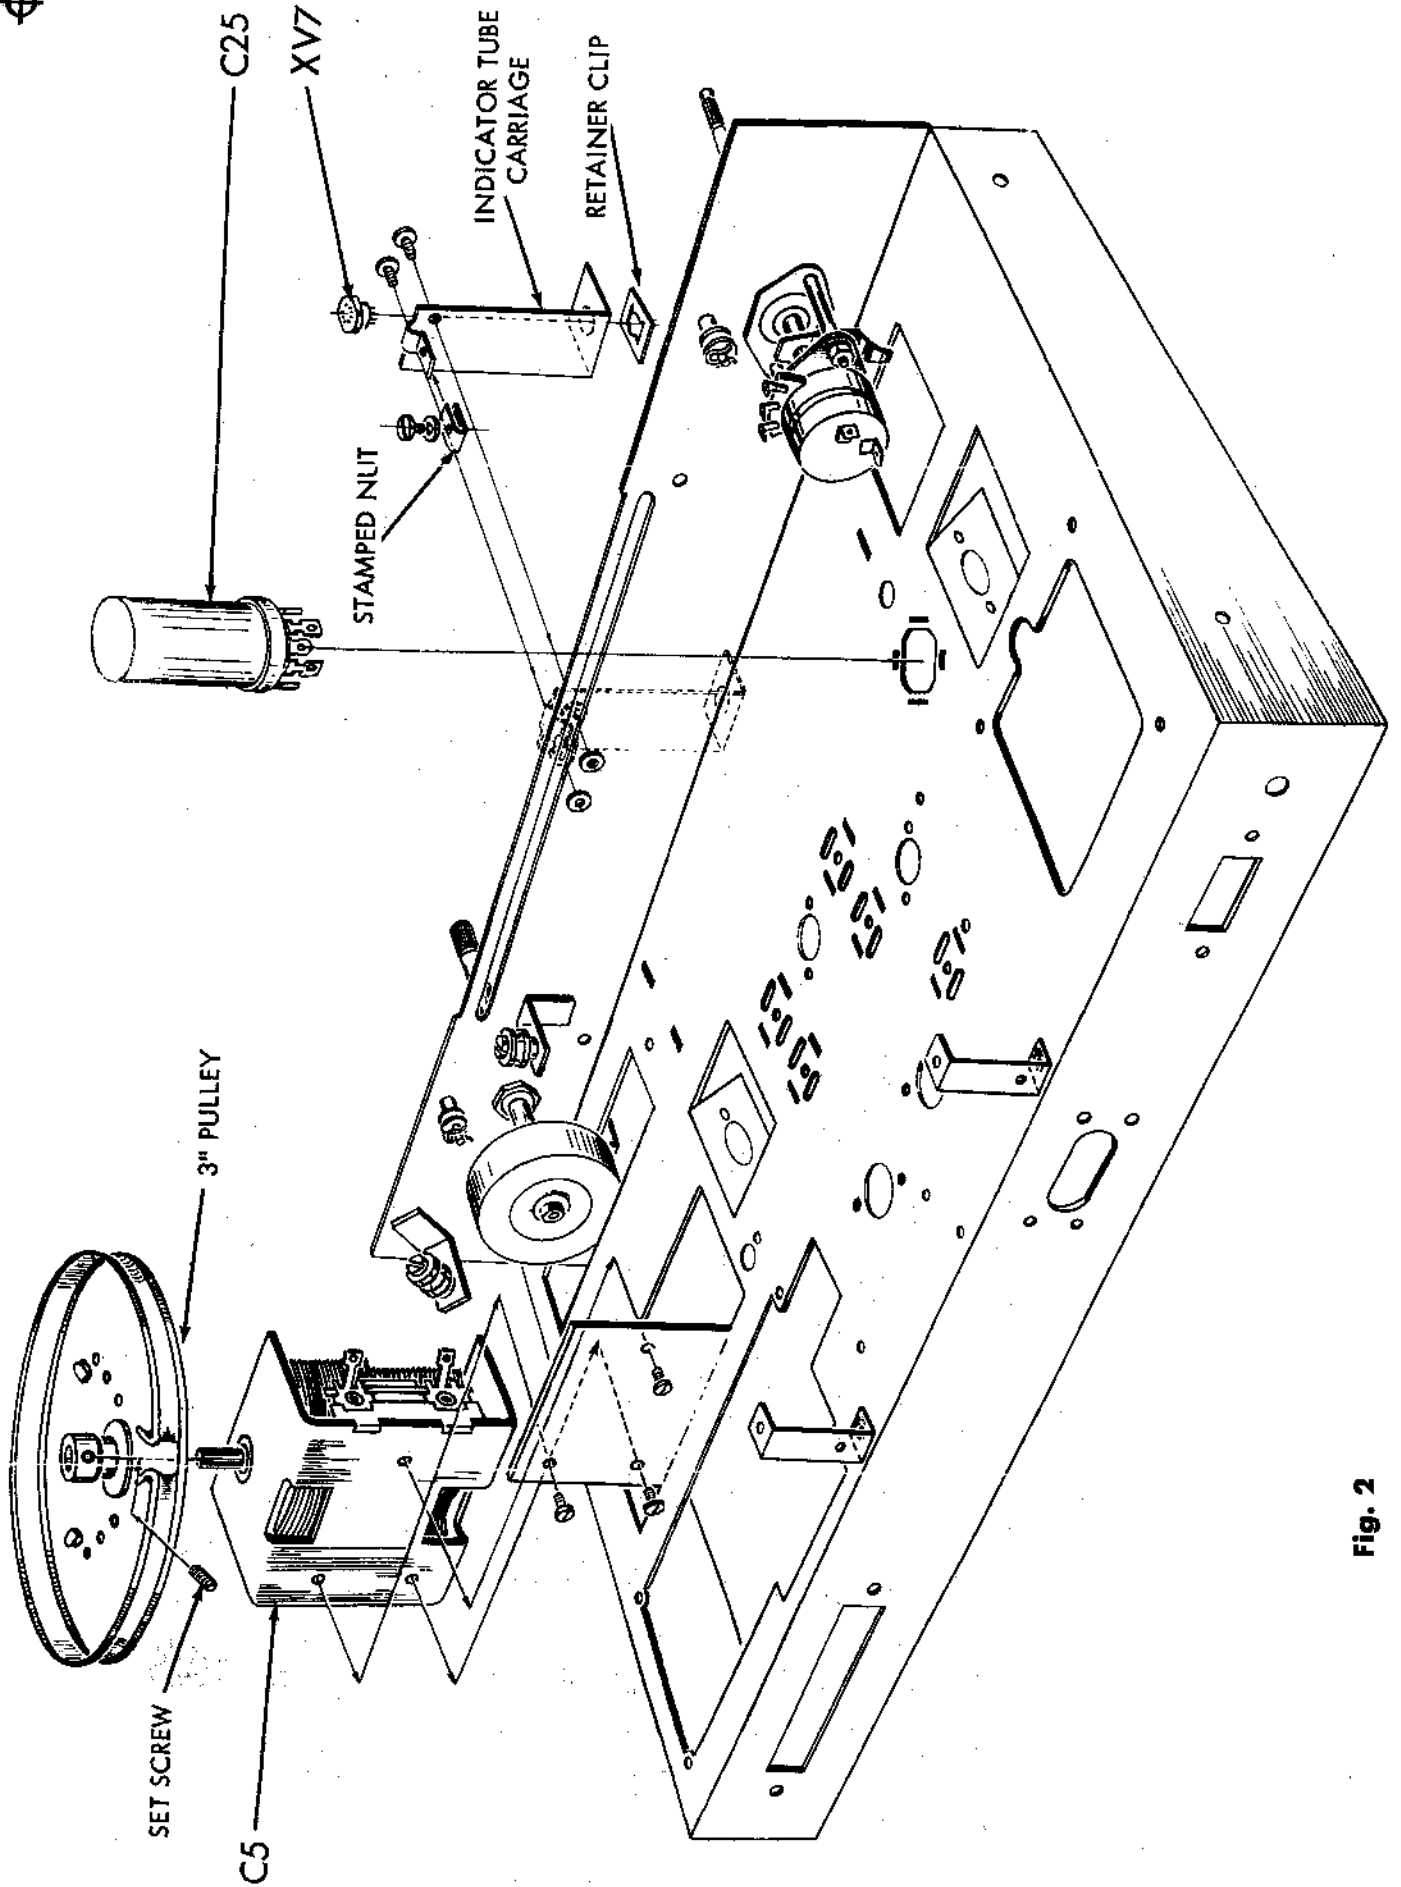
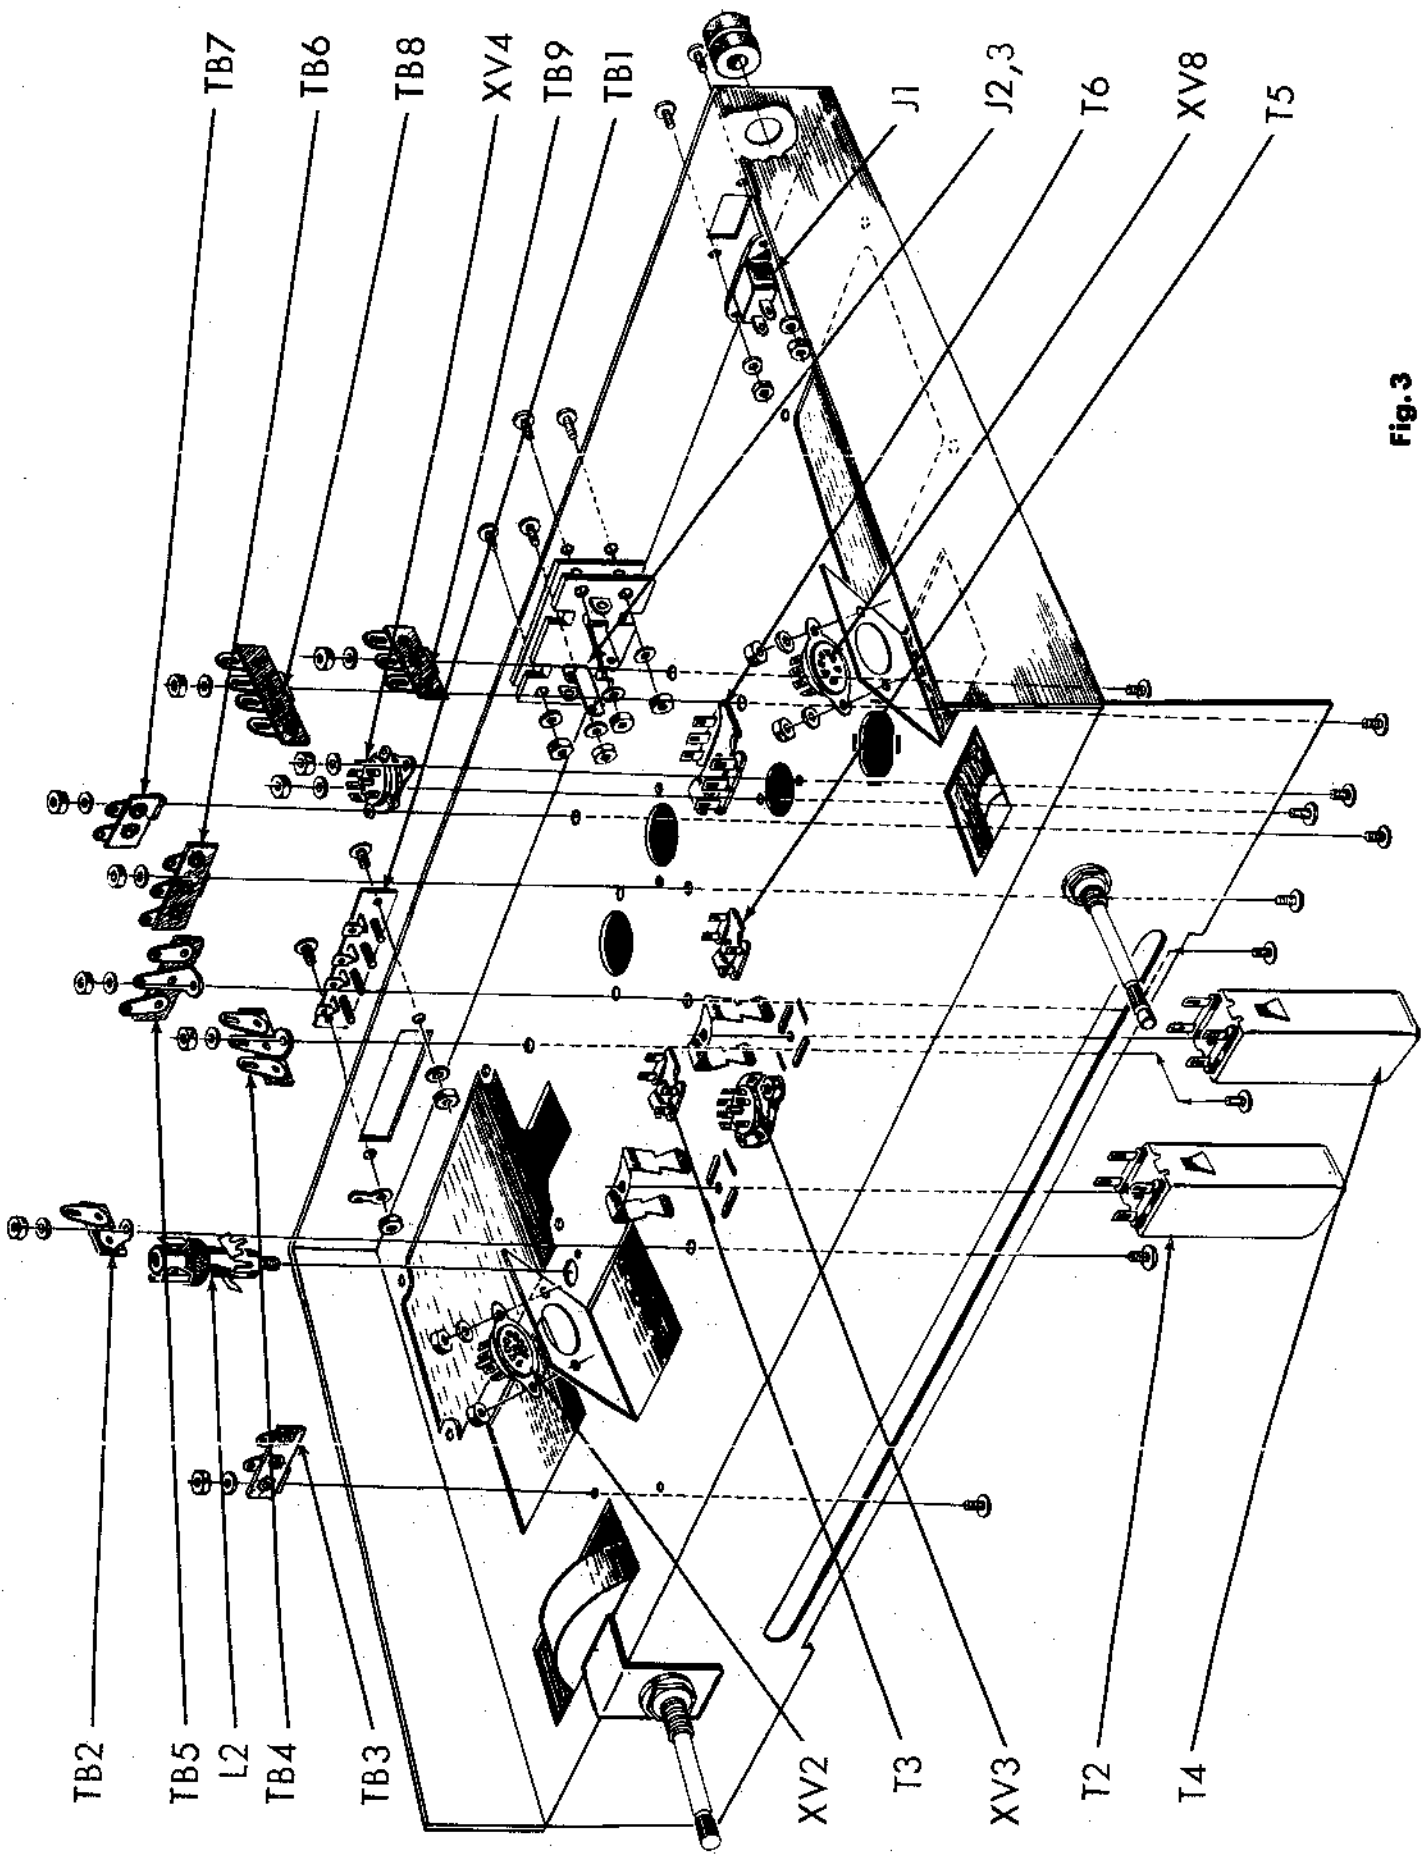
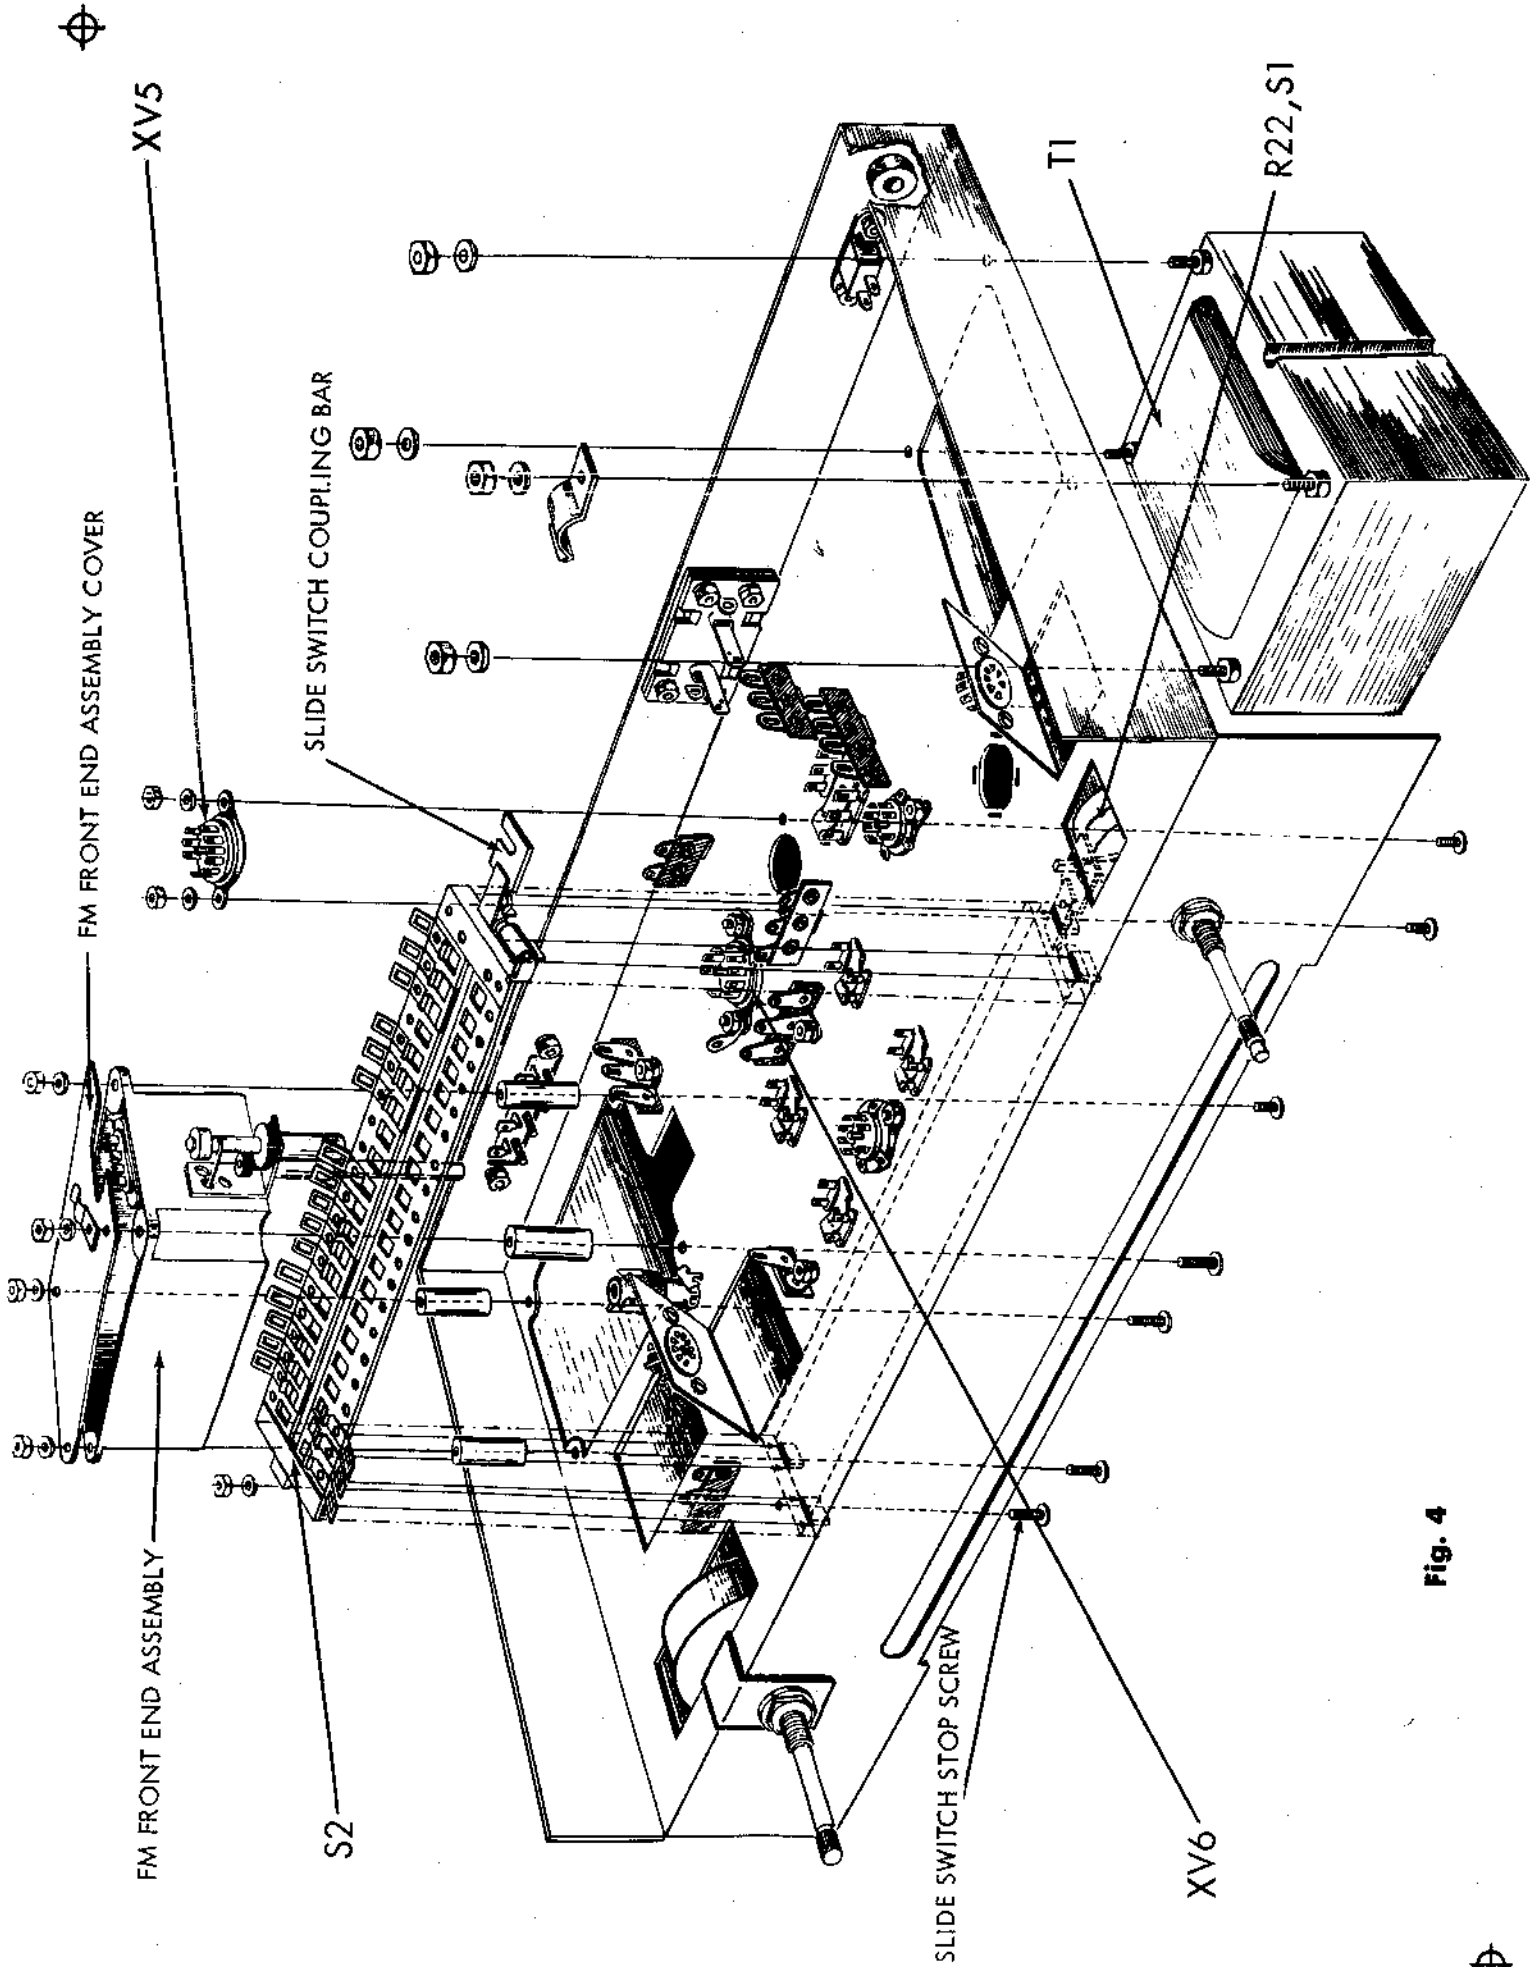
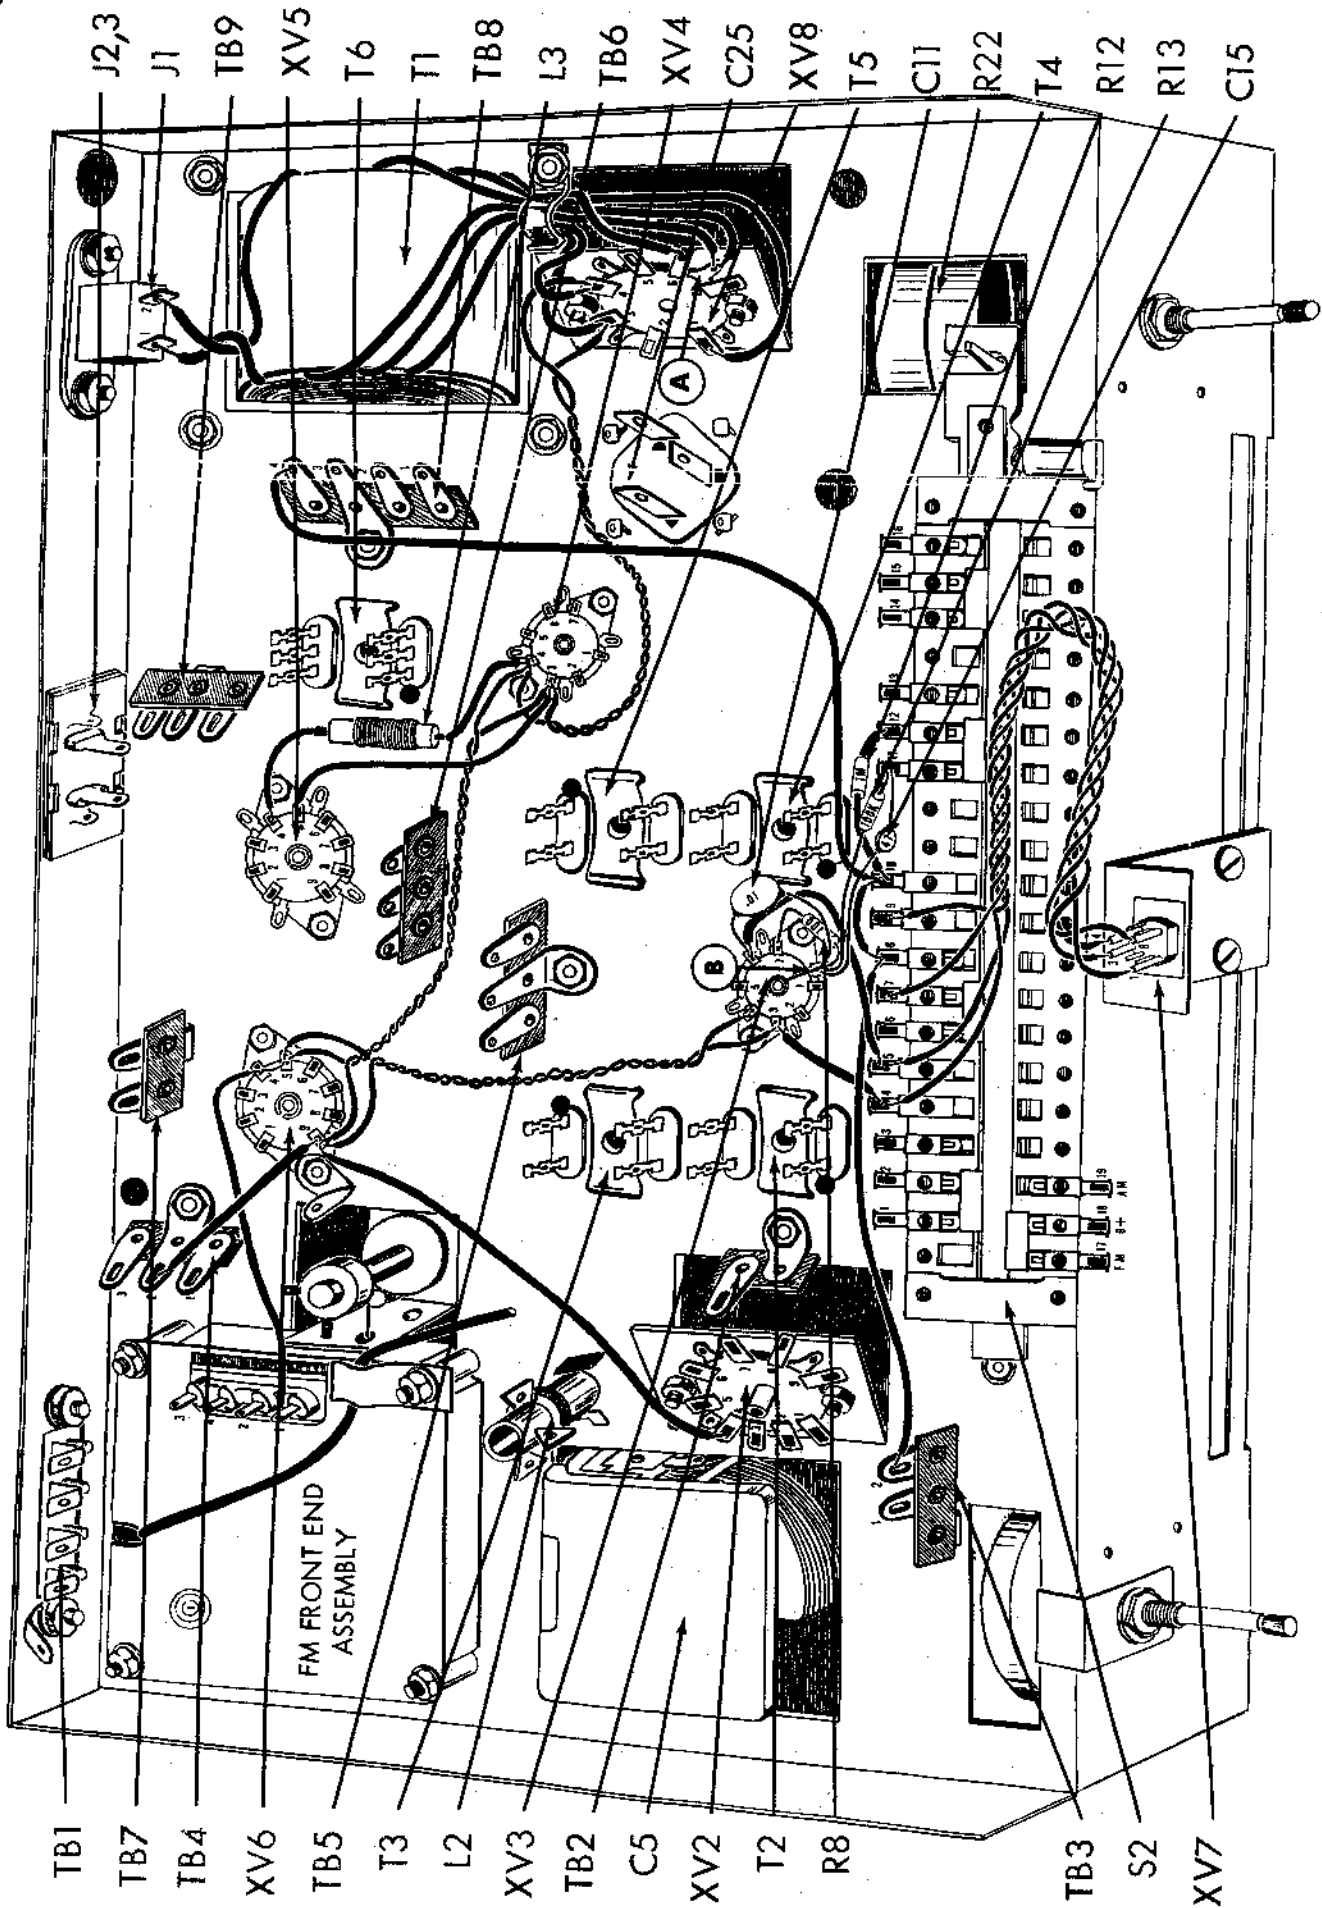

Fig. 2
Fig. 3
Fig. 4
Fig. 5
- (4) 1. Fig. 2. Snap the small stamped nut in position on the indicator tube carriage. Screw a #4-40 screw and a #4 flat washer into the nut. Do not tighten screw.
- (4) 2. Fig. 2. Pass the leads pre-wired to socket XV7 through the "D" shaped hole in the indicator tube bracket. Note that the flat on the socket automatically positions the socket. Pass the leads through the retainer clip and firmly press it over the socket to secure the socket to the tube carriage.
- (4) 3. Fig. 2. Mount the indicator tube carriage to the chassis as follows: Lay the carriage in place against the chassis front, as shown. Insert the shoulder of one of the special round brass tapped eyelets into the chassis slot from the rear and line it up behind one of the holes in the carriage. Insert a brass screw through one of the holes in the carriage into the threaded hole in the round brass tapped eyelet and then tighten the screw. Do the same with the second round brass tapped eyelet and brass screw using the second hole in the carriage. The carriage should slide freely along the full length of the slot when you are finished.
- (4) 4. Fig. 2. Mount the 40-20-20 mfd electrolytic can capacitor, C25, as shown. Note the orientation (direction of half moon, square and triangle) in figure 5. Twist all four tabs about 1/4 turn. Do not twist too much or the tabs will shear off. Solder the tab without the hole to the chassis to assure a good ground contact.
- (4) 5. Fig. 2. Turn the shaft on the variable capacitor C5, so that the plates are fully in mesh - closed (maximum capacity). This will prevent damage to the rotor plates. Mount the capacitor to the chassis bracket bent at a right angle with the rest of the chassis. The capacitor is to be mounted with the trimmer screws facing and closest to the edge of the chassis. Secure the capacitor to the bracket using three #6-32 x 1/8 screws.
- (4) 6. Fig. 2. Mount the set screw into the hole in the bushing of the 3" pulley. Rotate this screw three times in the hole so that it will not come loose.
- (4) 7. Fig. 2. Slide the 3" pulley over the capacitor shaft. Rotate the pulley and note if it is parallel to the frame of the capacitor. It is parallel if the pulley does not wobble when rotated. If it is not parallel, bend the pulley slightly. Push the pulley towards the frame. There should be about 1/32" clearance between the pulley bushing and the frame. Turn the pulley clockwise on the shaft until the opening in the side of the pulley is towards the side of the chassis, away from the center. Tighten the set screw when the pulley is in this direction, and the tuning capacitor is fully closed.
- (1) 1. Fig. 3. Mount the convenience outlet J1, in the rear apron of the chassis. Use two #6-32 x 1/4 screws, two #6 lockwashers and two #6-32 hex nuts.
- (2) 2. Fig. 3. In the hole next to the convenience outlet, mount a 3/8" rubber grommet.
- (3) 3. Fig. 3. Mount dual jack J2, 3, as shown. Use four #4-40 x 3/8 screws, four #4 lockwashers and four #4-40 hex nuts. Use a bakelite insulator between the chassis and the jack.
- (4) 4. Fig. 3. On four screw antenna terminal board TB1, bend up all lugs as shown in the drawing. From the outside of the chassis, mount the board using two #6-32 x 1/4 screws and two #6-32 hex nuts. Under one hex nut, mount a #6 ground lug and under the second hex nut mount a #6 lockwasher. Check that the lugs are bent parallel to the rear apron of the chassis and are about 3/16" away from the rear apron so that they will not short against the chassis or the component to be mounted near the lugs.
- (5) 5. Fig. 3. Mount the seven pin miniature socket, without the center shield lug, XV8, as shown. Use two #4-40 screws, two #4 lockwashers and two #4-40 hex nuts. Note orientation in figure 5.
- (6) 6. Fig. 3. Mount the seven pin miniature sockets, with the center shield lugs, XV3 and XV4, as shown. Use two #4-40 screws, two #4 lockwashers and two #4-40 hex nuts on each. Note orientation in figure 5.
- (7) 7. Fig. 3. Mount the tan nine pin miniature socket, XV2, as shown. Use two #4-40 screws, two #4 lockwashers and two #4-40 hex nuts. Note orientation in figure 5.
- (8) 8. Fig. 3. Mount the one post right terminal strip TB2, the two post left terminal strip TB3, the four-two post with ground terminal strip TB4, TB5, TB6 and TB9, the one post right with ground terminal strip TB7, and the three post two right with ground terminal strip TB8, as shown. Use one #6-32 screw, one #6 lockwasher and one #6-32 hex nut on each. See Fig. 5 for the orientation of the terminal strips.
- (9) 9. Fig. 3. Mount the rectangular cans, T2, T3, T4, T5 and T6, as shown. Use the special brass clip provided to hold each can. Each can may be identified by the stock number stamped on the can. The stock number for T2 is 34613, for T3 is 34603, for T4 is 34614, for T5 is 34605 and for T6 is 34602. T2 through T5 are IF cans and T6 is the ratio detector can. Orient each can so that the color dot, identifying one of the terminals, is as shown in figure 5. Push the plastic at the bottom of the can (in which the solder lugs are mounted) through the longer two of the four elongated slots (which surround the round hole). When this is done, the can stands on the top of the chassis. From the bottom of the chassis, insert the brass spring clip through the two remaining elongated slots, by spreading the clip apart slightly. Next, push one side of the clip up far enough so that it will catch in the "Y" shaped hole at the side of the can. Hold the can firmly against the top of the chassis with one hand. With the index finger of the other hand, working from the bottom of the chassis, push the clip up until it clicks into the remaining "Y" shaped hole in the other side of the can. Repeat this for each of the five cans.
- (10) 10. Fig. 3. Insert the oscillator coil, L2, into the hole near the variable capacitor and FM Front End Assembly, from the bottom of the chassis. Note the orientation in figure 5. The small locating pin on the mounting clip should fit into the small hole adjacent to the mounting hole. Push down toward the chassis until two soft clicks are heard and the coil form is held firmly to the chassis by the spring action of the two legs.
(4) 1. Fig. 4. Mount the two nine pin miniature tube sockets, XV5 and XV6, as shown. Use two #4-40 screws and two #4-40 hex nuts. On XV5, use two #4 lockwashers under the hex nuts. On XV6, use one #4 lockwasher under one hex nut and one #4 ground lug under the second hex nut. Note orientation in figure 5.
(4) 2. Fig. 4. On power transformer T1, cut both green leads, one red lead and the white leads to 4". Cut the red-white and the second red lead to 5". Cut both black leads to 2". Strip 1/4" of insulation off from the ends of each of these leads. Mount the power transformer as shown, with the red leads close to the side of the chassis, away from the center. Use four #8 lockwashers and four #8-32 hex nuts. Under one of the lockwashers, mount a cable clamp. The two green leads, the two red leads, the red white lead and the white lead are to be run under this cable clamp.
(4) 3. Fig. 4. Mount the FM Front End Assembly as shown. Use four #6-32 x 1 1/8" screws, four 1 1/16" aluminum spacers, four #6 lockwashers and four #6-32 hex nuts. The screws are passed through the four holes through the top of the chassis. The spacers are placed over these screws from the bottom of the chassis. The FM Front End Assembly is placed over these spacers with the FM Front End Assembly cover over this. Each screw and the FM Front End Assembly is secured to the chassis with the four lockwash-
ers and four hex nuts. Note that the shielded lead from the FM Front End Assembly must pass through the notch in the FM Front End Assembly cover. Under one of the lockwashers, mount a cable clamp. Pass the shielded lead under the cable clamp as shown in figure 5.
(4) 4. Fig. 4. Mount the 6-32 x 3/8" slide switch stop screw as shown from above the chassis. Use a #6 lockwasher and a #6-32 hex nut to secure the screw to the chassis.
(4) 5. Fig. 4. Mount the large slide switch, S2, as shown. Slip the slide switch coupling bar over the actuating lever protruding from the rectangular hole under the potentiometer-switch combination, R22, S1. It may be necessary to move the slide switch lever when doing this. Insert the four tabs on the slide switch through the four small slits near the front of the chassis. Twist all four tabs about 1/4 turn. Do not twist too much or the tabs will shear off.
- (✓) 1. Fig. 5. From power transformer T1, twist the two black leads as shown. Connect one lead to J1-1 (C) and the second lead to J1-2 (C).
- (✓) 2. Fig. 5. From power transformer T1, connect the red-yellow and white leads to ground lug "A" (S2) at XV8; connect one red lead to XV8-1 (S1) and the second red lead to XV8-6 (S1); connect one green lead to XV8-3 (C) and the second green lead to XV8-4 (C).
- (✓) 3. Fig. 5. Connect one end of a 5" piece of yellow wire to XV8-4 (S2) and one end of a 5" piece of brown wire to XV8-3 (S2). Twist both leads together. Run the leads along the chassis, as shown. Connect the other end of the yellow lead to XV4-4 (C) and the other end of the brown lead to XV4-3 (C).
- (✓) 4. Fig. 5. Connect one end of a 5" piece of yellow wire to XV4-4 (C) and one end of a 5" piece of brown wire to XV4-3 (C). Twist the two leads together. Run the leads along the chassis, as shown. Connect the other end of the yellow wire to XV6-5 (C) and the other end of the brown wire to XV6-9 (C).
- (✓) 5. Fig. 5. Connect a 2 1/2" piece of brown wire from XV4-3 (S3) to XV5-5 (S1).
- (✓) 6. Fig. 5. Cut both leads on RF choke, L3, to 7/8". Cover each lead with a 5/8" piece of spaghetti. Connect from XV4-4 (C) to XV5-4 (S1). Dress the choke close to the chassis.
- (✓) 7. Fig. 5. Connect a 3/4" piece of bare wire from XV6-4 (C) to XV6-5 (C).